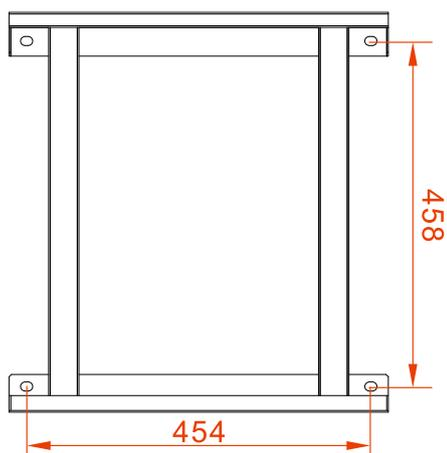

Figure3-3 The dimensions of installation holes of installation holder (Unit: mm)
The inverter can be installed on the wall or metal holder through equipped installation holder, the dimensions of installation holes of the installation holder is as shown in Figure3-3.
- Step 2 According to the dimensions of installation holes of installation holder(as shown in Figure3-3), mark the position of installation holes on the wall. Drill holes on the wall vertically by hammer drilling according to the marked position.